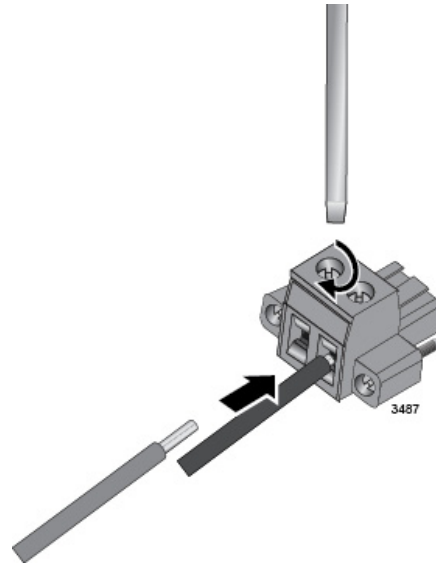

Figure 38. Inserting the -48/-60VDC Wire
8. Insert the red -48/-60VDC wire into the left connector and secure it by tightening the captive screw with a flat-head screwdriver. Allied Telesis recommends tightening the screw to 5 in-lbs. Refer to Figure 38.